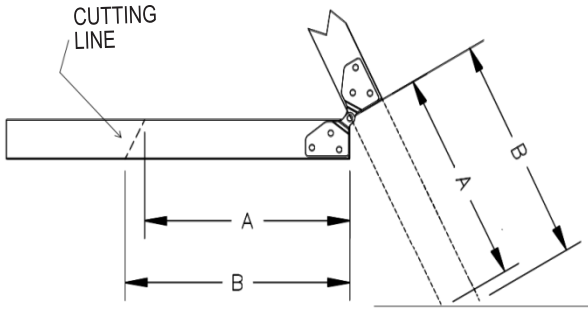

FIGURE 10
B. With a straight edge, measure distances from middle section to floor, for both A & B lengths (Figure 10). Record the results in the space provide in table 2. Take measurements for both the left and right rails.